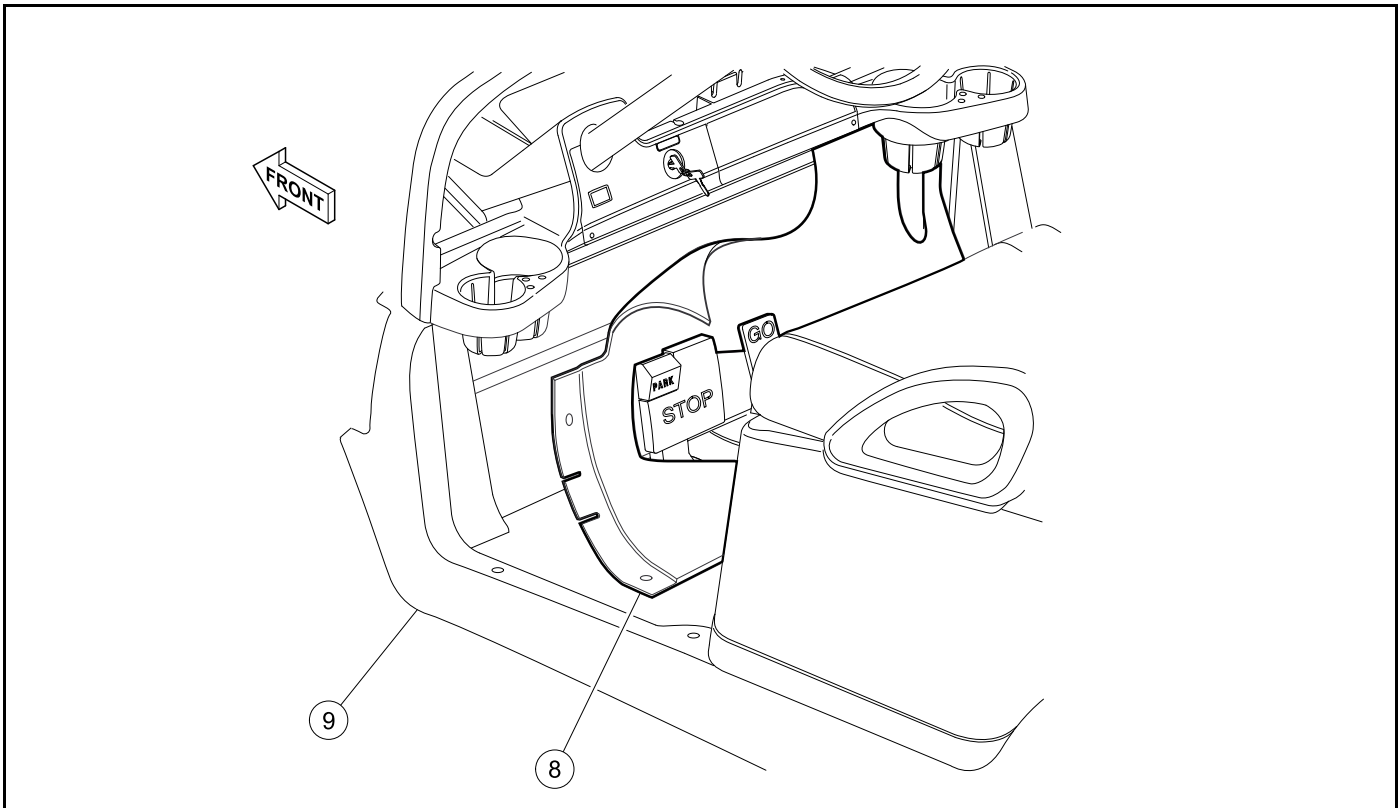

Figure 5-4 Floor Mat and Retainer Installation
2. Install the driver side screws (2). Tighten the driver side screws to 97 lb·in (11 N·m).
3. Install the passenger side screws (3). Tighten the passenger side screws to 18 lb·in (2 N·m).
4. Remove the turnbuckle (4).
5. Apply Loctite® 242 to the threads (5) of both the rods.
8. Install the cover (6).
9. Install the fastener (7).
10. Install the floor mat (8) over the pedal group (**Figure 5-4**).